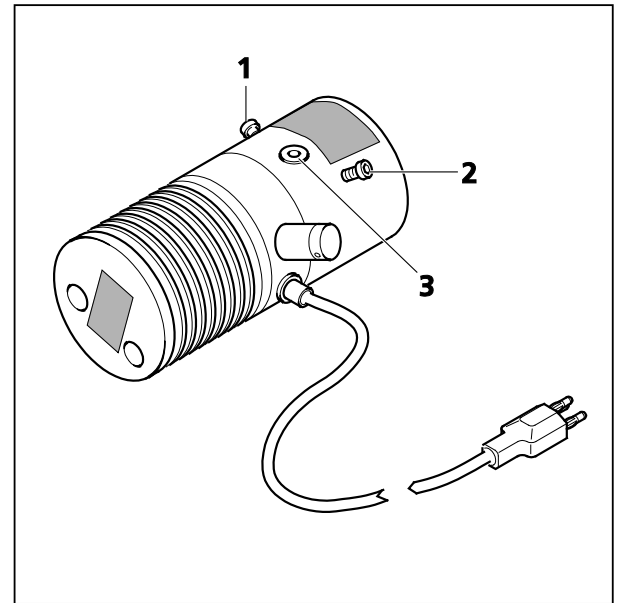

Fig. 51 Adjusting the VIS-LED attachment lamp
- Remove the eyepiece. Use the adjusting screws (Fig. 51/1 and 2) to center the image of the illuminator in the pupil image.
- Use adjusting screw (Fig. 51/3) to achieve optimally even illumination of the pupil image.